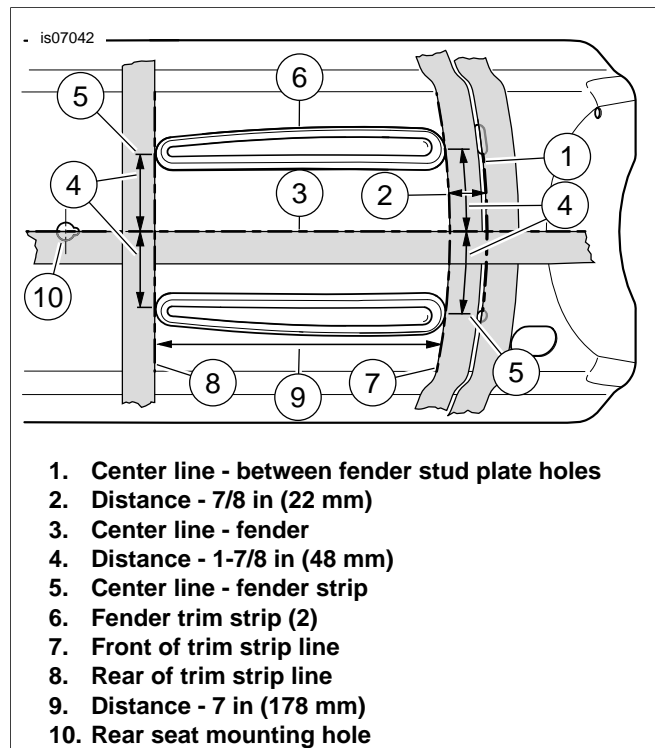

Figure 1. Determine Fender Strip Location
2. See Figure 1. The fender trim strips are located 7/8 in (22 mm) back from the center of the rear fender stud plate holes. The center line of each fender trim strip is 1-7/8 in (48 mm) to the left and right of the fender center line. The following procedure can be used to determine the fender trim strip mounting locations:
- a. Lay a piece of masking tape along the center line (1) between the two fender stud plate holes.
- c. Lay a piece of masking tape from the center of the rear seat mounting hole (10), along the fender center line, to the center point marked in step b. This is the fender center line (3).
- d. Lay a piece of tape parallel and 7/8 in (22 mm) (2) to the rear of the center line (1) marked in step a. This will mark the front of the trim strip mounting location (7).
- e. Lay a piece of tape parallel and 7 in (178 mm) to the rear of the tape line marked in step d. This will mark the rear of the trim strip mounting location (8).
- f. Mark a point 1-7/8 in (48 mm) (4) to the left and right of the fender center line (3) on the tape from steps d and e. These mark the center points for the front and rear of each trim strip (5).